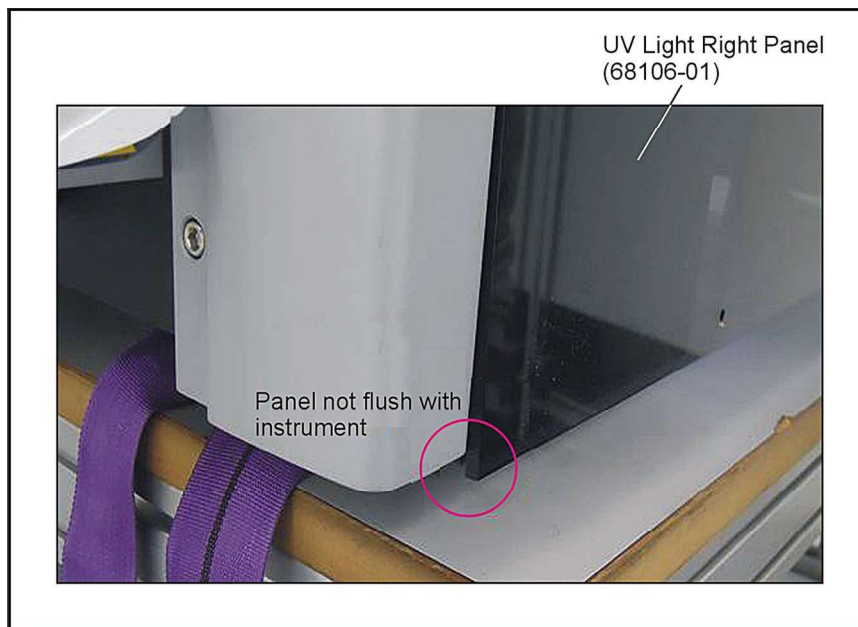

Figure 2-25: Bottom front corner of right panel relative to the instrument corner upright
15. The UV Light Right Panel (68106-01) hangs down below the instrument upright when installed (Figure 2-25).